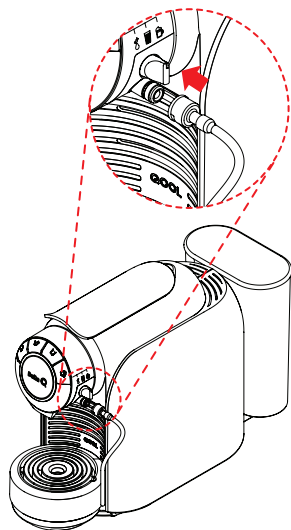

Fig. 23: Connect the milk suction to the milk system.
- Connect the milk suction tube to the milk system (see **Fig. 23**).